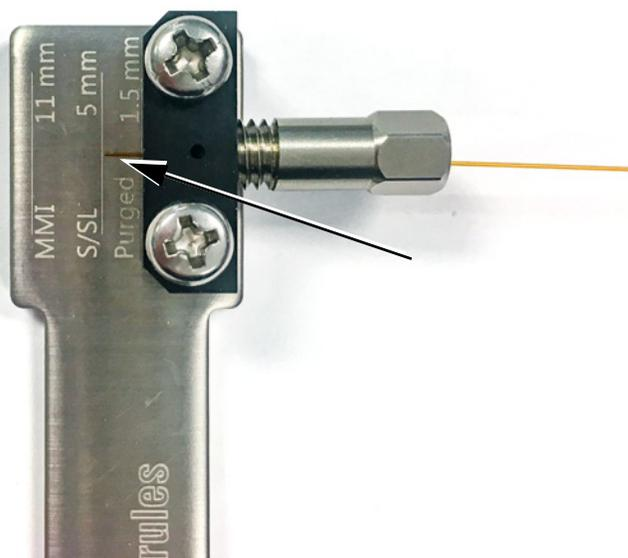

Figure 15. Align column (split/splitless shown)
- 5 Adjust the column position in the tool until the column end aligns with the correct dimension for the inlet. See **Figure 15**.